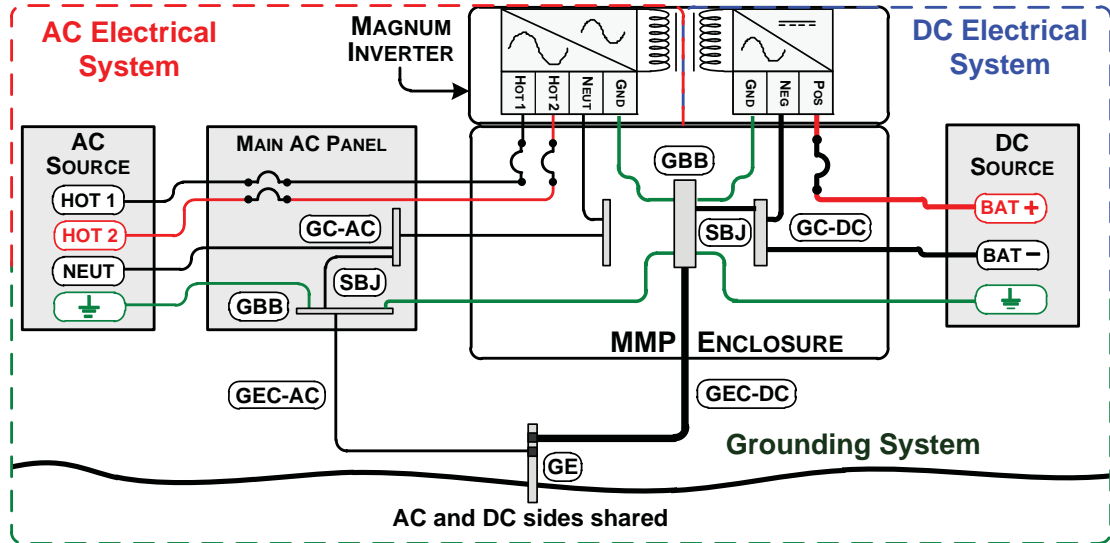

Figure 2-20, Multiple Connections to DC Ground Rod (Method 2)
2. **Multiple Connections to Ground – Single Electrode (Method 2):** When the AC and DC service panels are near each other, then the AC Grounding Electrode Conductor (GEC-AC) and DC Grounding Electrode Conductor (GEC-DC) can be connected to a single Grounding Electrode (see Figure 2-20). In this method—since there are multiple connections to the DC Grounding Electrode (GEC-DC)—the size of the DC grounding electrode conductor cannot be smaller than the largest conductor in the DC system (usually the battery-to-inverter cable).